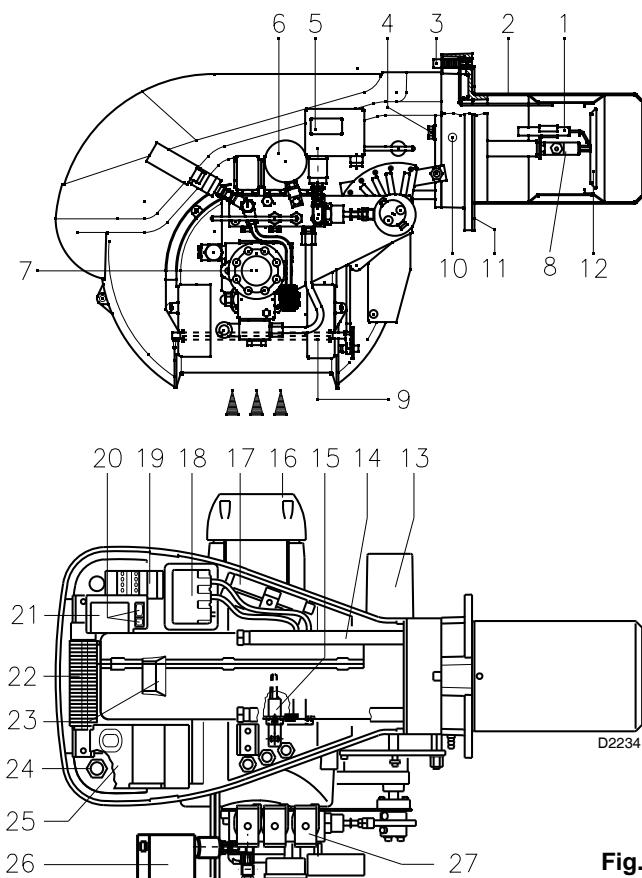

Fig. 1
4.3 Burner description (Fig. 1)
Control Box Lock-out: if the control box 25) (Fig. 1) pushbutton lights up, it indicates that the burner is in lock-out. To reset, press the pushbutton.
Motor trip: release by pressing the pushbutton on thermal cut-out 19) (Fig. 1).
| 2 - Flexible hoses | 4 - Extensions 17) (Fig. 1) for slide bars 14) (Fig. 1) (for models with 385 mm blast tube) |